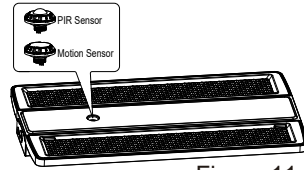

Figure 11
Step2. Twist-lock the DC sensor to the base to make it work properly, use a remote control to adjust the working mode as per demand.(Figure 11)